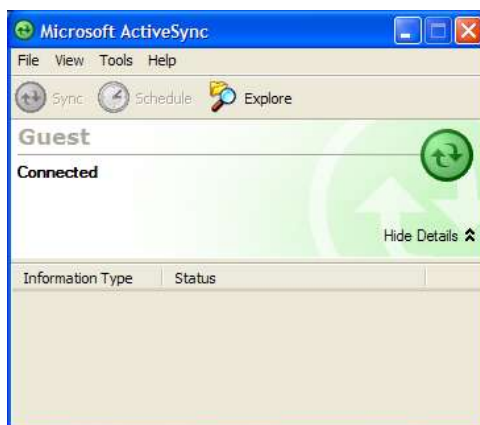

Figure 29: ActiveSync window.
3. ActiveSync will then connect the PDA and PC and the ActiveSync connection window will appear. When connection is established, the ActiveSync window will display **Connected** (Figure 29).